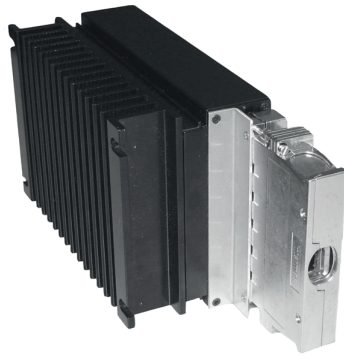

Fig. 46
- Different cable hoods for H15 connectors (fig. 46):